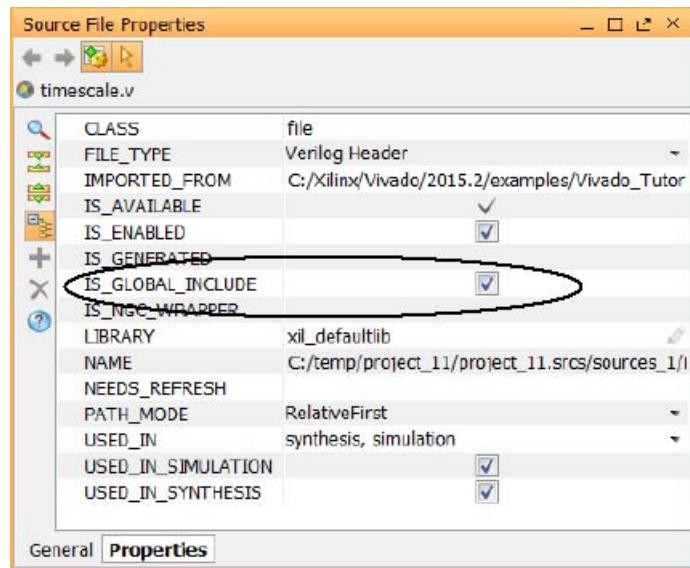

Figure 1-10: Source File Properties Window
2. Check the **IS_GLOBAL_INCLUDE** checkbox in the Source File Properties window, as shown in Figure 1-10.